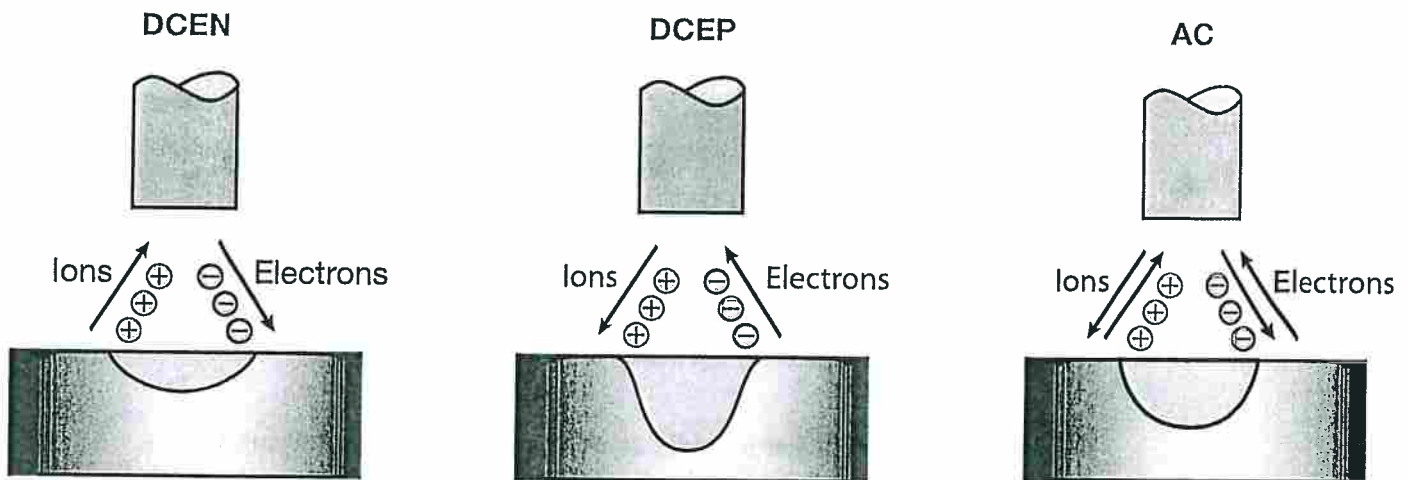

Figure 3. SMAW Polarities.
When welding, the current must flow in a circular pattern that leaves the power source and returns to the power source via the electrical circuit. The path the current follows will determine the polarity the welder is using. In SMAW a welder can choose between alternating current (AC), direct current electrode negative (DCEN), and direct current electrode positive (DCEP). Figure 3 shows these three polarities. Each polarity has its specific advantages and limitations and will determine the type of electrode used by the welder. When welding with DCEN, current flows through the electrode cable to the electrode holder, through the holder to the electrode, and across the arc. On the work side of the arc, the current flows through the base metal to the ground cable and back to the welding machine. When welding with DCEP, the current flows in the opposite direction. AC (alternating current) switches the direction of current flow 120 times per second when using a traditional 60 hertz (Hz) power source. Regardless of the polarity used, the circuit must be complete for the current to flow, which means that it is impossible to weld if the cables are not connected to the machine or to either the electrode or the work.